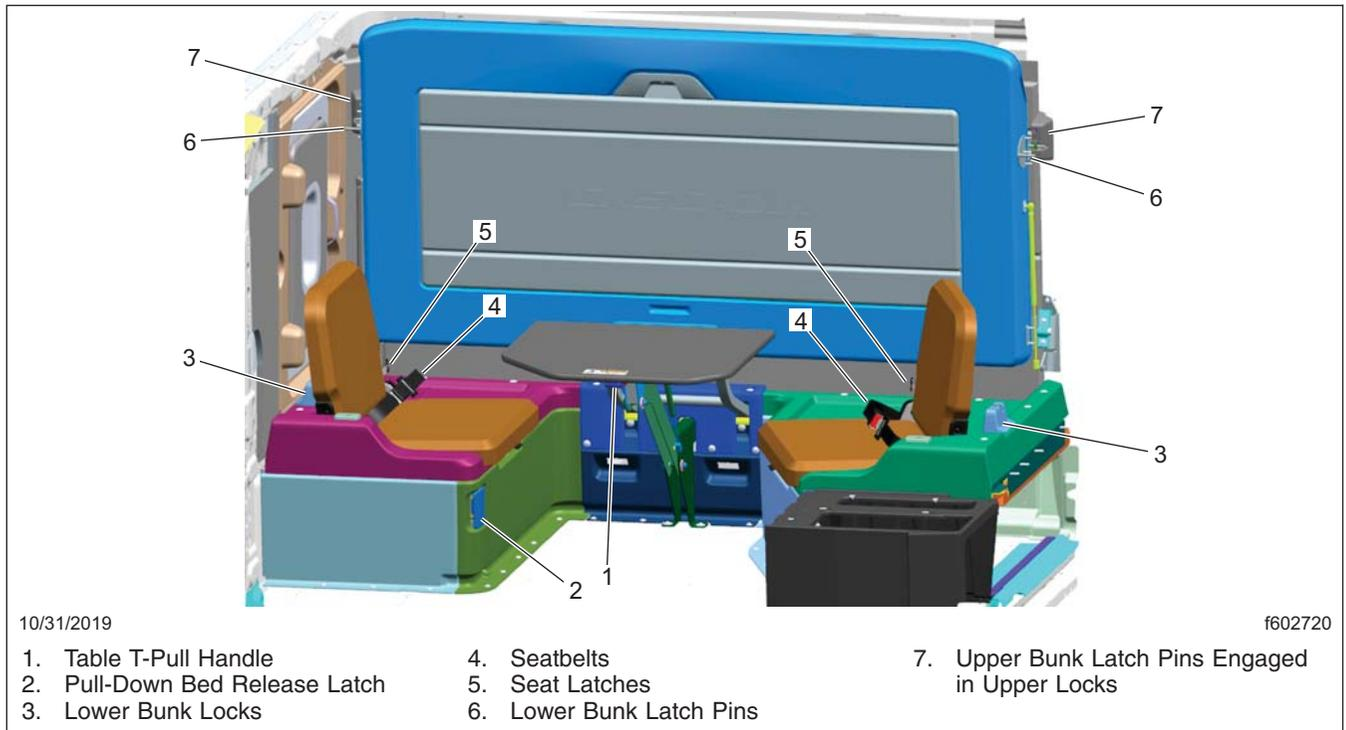

Fig. 10.4, Pull-Down Bed With Lounge
Setting up the pull-down bed (see Fig. 10.4) consists of the following steps.
3. Pull out the bed release latch until you feel a release of tension. See item 2 in Fig. 10.4.
1. Pull out the bed release latch until you feel a release. See item 2 in Fig. 10.4.